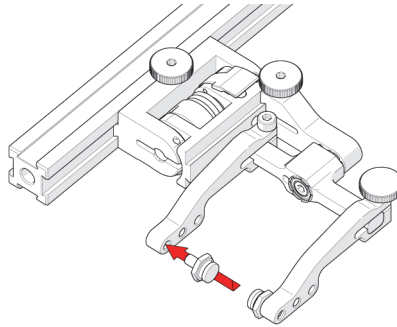

Figure 2-27 Install pivot buttons
4. Using the supplied 3/8 inch wrench (see Figure 1-19 on page 34), place the pivot buttons as required (see Figure 2-27 on page 56).